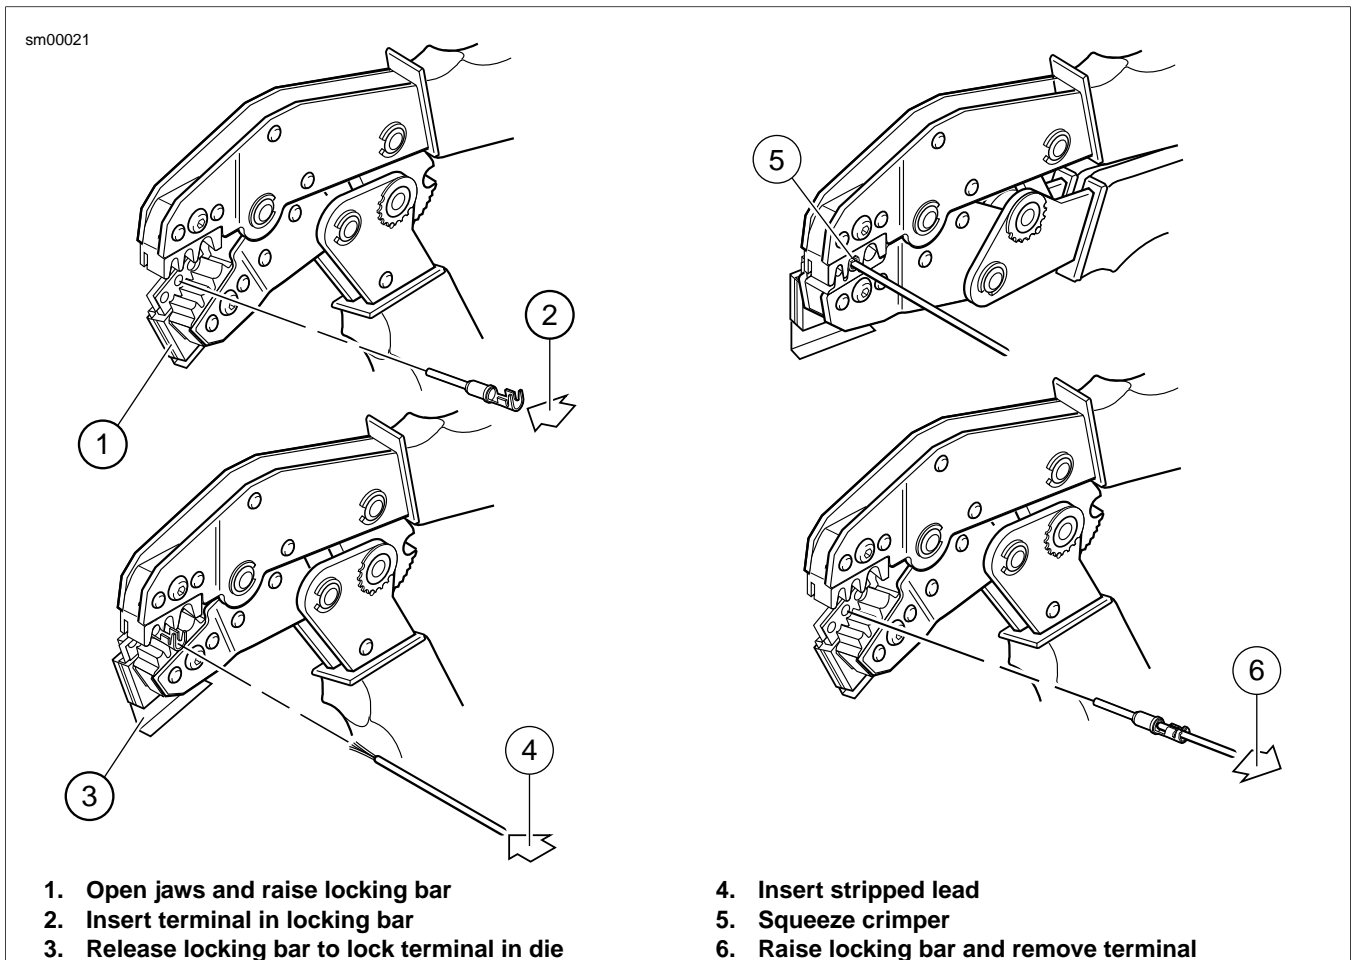

Figure A-19. Crimping a Deutsch Standard Terminal
1. See Figure A-19. Squeeze the handles of the DEUTSCH TERMINAL CRIMP TOOL (Part No. HD-39965-A) to open the jaws. Push the locking bar (1) up.
2. Insert (2) terminal (socket/pin) through hole of the locking bar, so that the rounded side of the contact barrel rests in the nest (concave split level area) with the crimp tails facing upward. To match the wire gauge to the crimp tool die, refer to Table A-3.